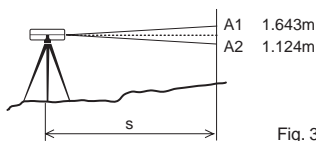

Fig. 3
- ② Set staff on point A and B. Note the reading a on A, then the reading b on B by using the instrument.
- ③ The difference in elevation of A, B is $H=a-b$
4.4.2. Stadia surveying (See Fig. 3).